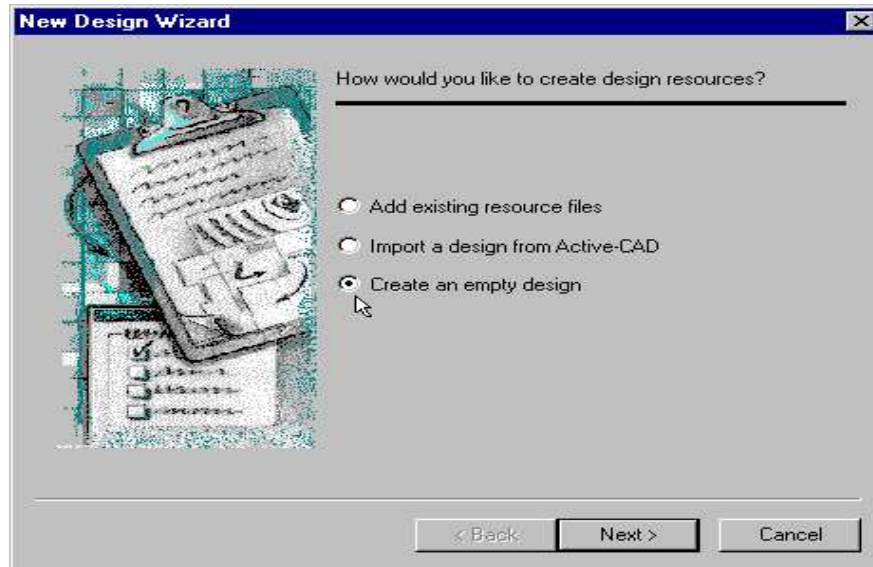

Figure 4
1. Click the “Create an empty design” radio button. Then click the Next button (Figure 4).